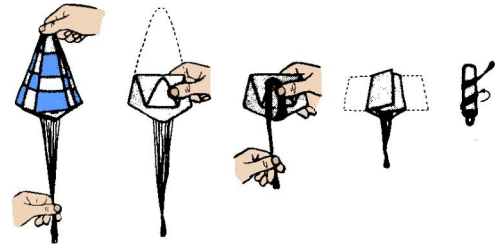

Figure 14
- **Step 26** Study the illustrations in Fig. 14 to see how to correctly fold the parachutes. Attach the snap links to the screw eye only when you are ready to fly. Do not store the parachutes in the body of the rocket between flights. In cold climates, or during winter months, you will find it helpful to give the parachutes a light dusting of talcum powder. This will help the parachutes open at deployment by keeping the plastic from sticking to each other, or to themselves.